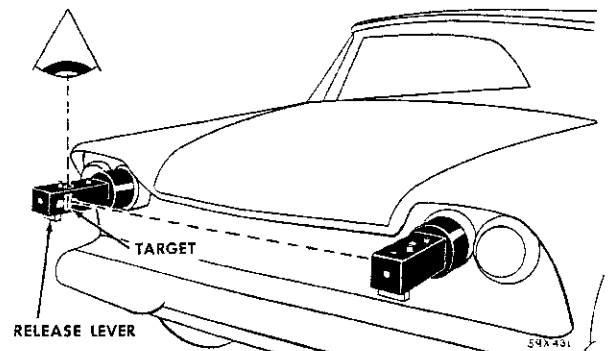

Fig. 93—Mounting and Adjusting the Aimers (Typical)
(3) Set the RIGHT-LEFT pointer and the floor level compensator at "0".
(4) Secure the aimers to the glass or smooth surface three to five feet apart so that the split image targets can be located in the viewing ports.
(5) If the bubble is centered in the vial, the vertical calibration is correct. If the bubble is not centered, make the down-up adjustment by rotating level adjusting screw until the bubble is centered in the spirit level.
(6) The horizontal aim is correct if the targets on opposite aimers are aligned in the viewing ports. If the targets are not aligned in the viewing ports, rotate the mirror adjusting screw until the target split image becomes aligned.
c. Mounting and Adjusting the Aimers (Fig. 93)
(1) While holding an aimer in alignment with the lens of one outer headlamp, bring the aimer up to and against the headlamp lens.